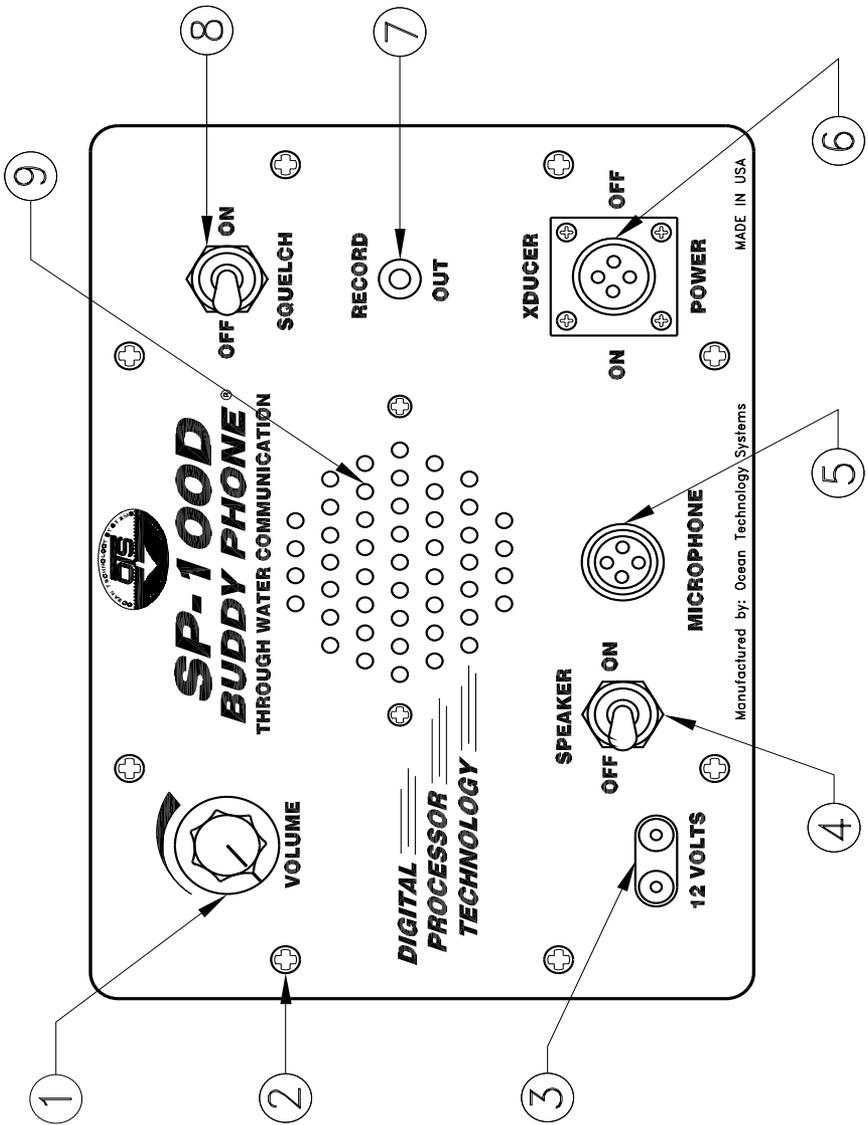
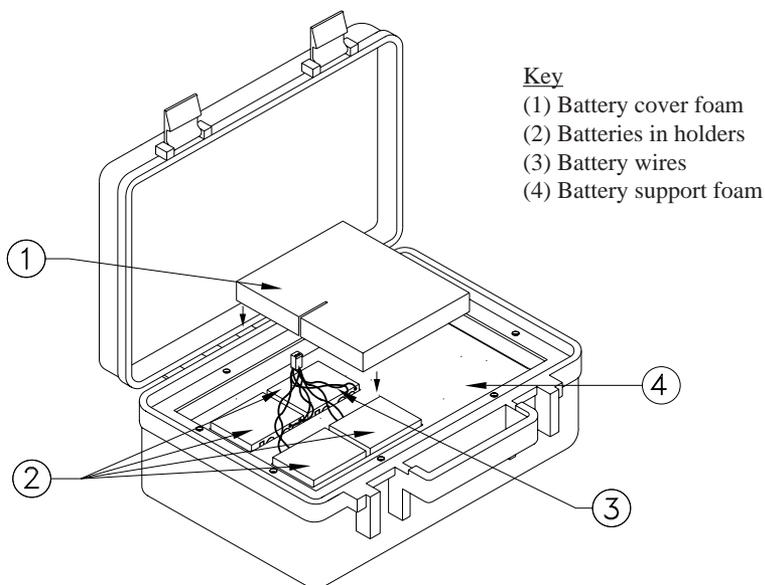

Figure 1
Figure 2
Figure 1 depicts the SP-100D panel. The numbered text below is the key to the indicated items in Figure 1. Text in all capital letters refers to the label on the panel.
2. Remove the eight #8 Phillips pan-head screws located on the front panel (Fig. 1, #2). You will need a Phillips-head screwdriver that fits a #8 screw.
3. Gently remove the front panel by grasping the volume control knob (Fig. 1, #1) and transducer receptacle (Fig. 1, #6) and lifting the panel carefully. Be careful not to stress the wires connecting the front panel to the battery holders (Fig. 2, #3). Set aside the entire front panel with electronics attached.
4. Remove the foam padding that covers the batteries (Fig. 2, #1). Locate the four AA battery holders (Fig. 2, #2), remove them, and install fresh AA batteries (four in each holder). The battery holders are marked with instructions to show the correct orientation of the batteries. Make sure all batteries are installed properly.
5. After the batteries are properly installed, put the holders back into the foam pad (Fig. 2, #1) face down. Ensure all wires are dressed such that they are not pinched. Replace the foam padding to cover the batteries (Fig. 2, #1). Replace the front panel, and reinstall the eight panel screws with moderate tightness (make sure you do not overtighten them).
2. Open the case cover, and ensure that the o-ring is in place in the transducer cable receptacle (Fig. 1, #6) on the front panel. Connect the TCA-35 transducer cable to the receptacle. Connecting the transducer cable powers up the SP-100D. (When not using the SP-100D, disconnect the transducer cable to conserve battery power.)
4. Adjust the volume (Fig. 1, #1) to a comfortable listening level.
5. If desired, turn on the squelch (Fig. 1, #8) to suppress background noise.
6. Connect the HHM-3 hand-held microphone (supplied with the SP-100D) or the THB-14 headset (sold separately) to the microphone receptacle (Fig. 1, #5).
4.2.1 LISTENING VOLUME: The volume control knob (Fig. 1, #1) allows adjustment of the listening volume of audio signal coming through the front-panel speaker. Turn the volume control clockwise to increase the volume and counter-clockwise to decrease it. If you are using a headset (the THB-14, sold separately), the volume control knob also controls the listening volume through the headset.
4.2.2 SPEAKER ON/OFF: If you are using the optional THB-14 headset (part no. 900298-015), you may want to turn off the front-panel speaker. This is done with the speaker on/off switch (Fig. 1, #4).
4.2.3 SQUELCH CONTROL: The squelch helps suppress background noises created by sea creatures, human activity, or other sources (e.g., snapping shrimp, croakers, motor boats, pool pumps). To activate the squelch circuit, toggle the squelch switch (Fig. 1, #8) to the *on* position.
If you would prefer to use a headset, we offer an optional headset with boom microphone (model THB-14) that connects to the microphone jack on the SP-100D panel. You have the option of turning off the speaker (Section 4.2.2) while you use the headset. The volume control knob (Fig. 1, #1) serves to adjust the headset's listening volume. When connecting the headset, be sure the listening volume is turned down, because the volume is much louder in the headset than through the speaker.
If you would like to record the communications, connect the recording device to the “record out” jack (Fig. 1, #7). The jack accepts a male RCA phono plug. Ensure the recorder is recording when the SP-100D is operated. All sounds outputted to the speaker will be recorded at “line level.”